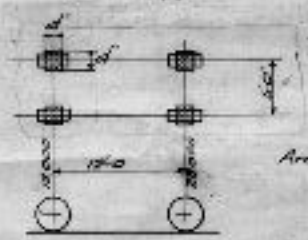

Fig 2
2) A 20 Ton Truck producing loads as shown in Fig 2. The arches and foundations shall be designed for a uniform load of 80lb per sq ft for spans of 200 ft or over, &  $(80 + \frac{2000}{L})$  per sq ft for spans under 200 ft (in spans  $\leq 4$ ). In case any part of the arch receives greater stress from two trucks side by side than from the uniform load the greater stress shall be provided for.